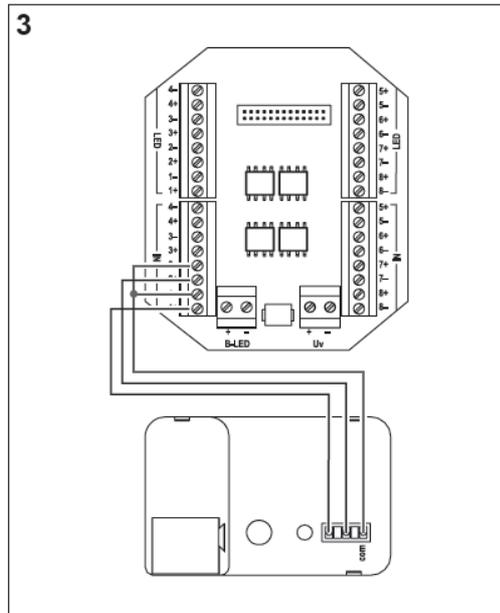

Figure 3
- Route cables of inputs **E1** and **E2** into terminals **1+** and **2+** of the **IN** terminal block on the adapter (Figure 3) and tighten screw terminals.
i Alternatively, the universal interface 4gang can also be used to connect all sensor surfaces of a glass sensor 2gang. The interface must then be programmed with 4 inputs. The wiring should be carried out as shown in (Figure 3) into terminals **1** to **4** of the **IN** terminal block on the adapter.